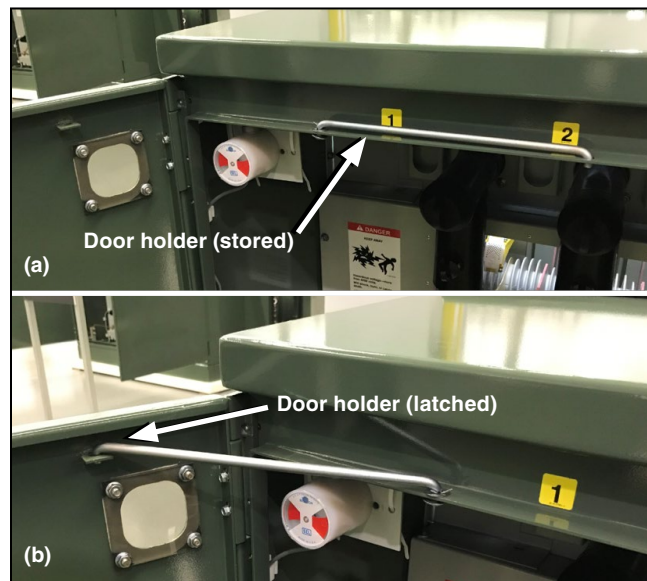

Figure 5. Using the door holder to hold the door open.
- STEP 4.** Open each door fully and latch the door holders. See Figure 5.